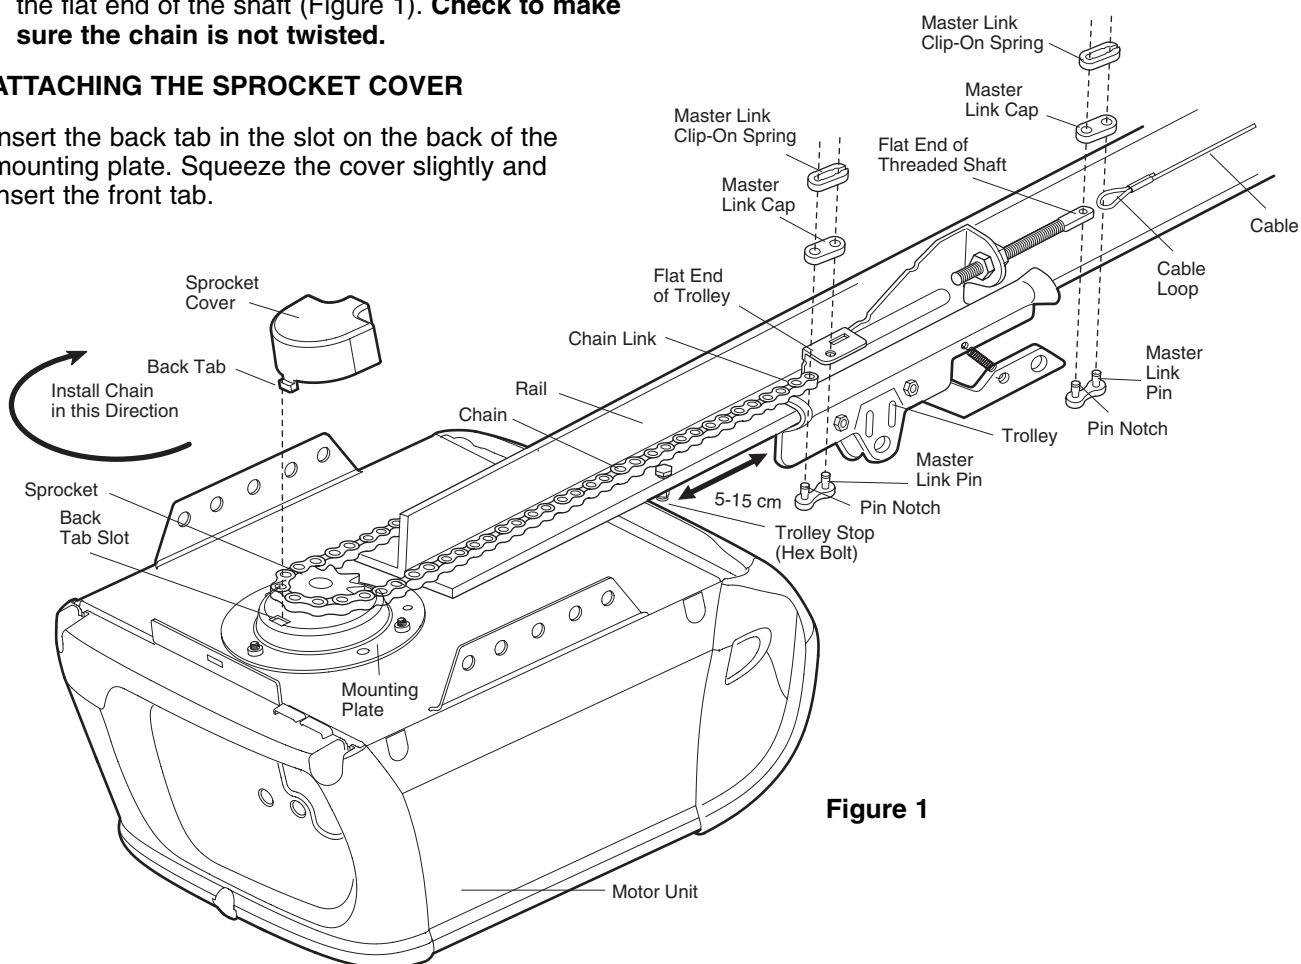

Figure 1
3. Use the second master link to connect the chain to the flat end of the shaft (Figure 1). **Check to make sure the chain is not twisted.**